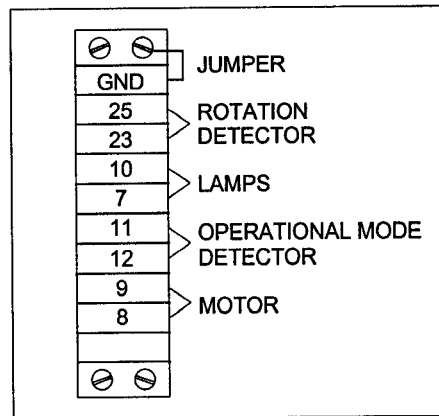

Figure 3-6
- e. Wiring shall be 12 AWG minimum for the lamp and motor circuits and 14 AWG for the rotation detector and lampchanger position (if monitored). Wires shall have insulated spring spade lugs and terminated as shown in figure 3-6.